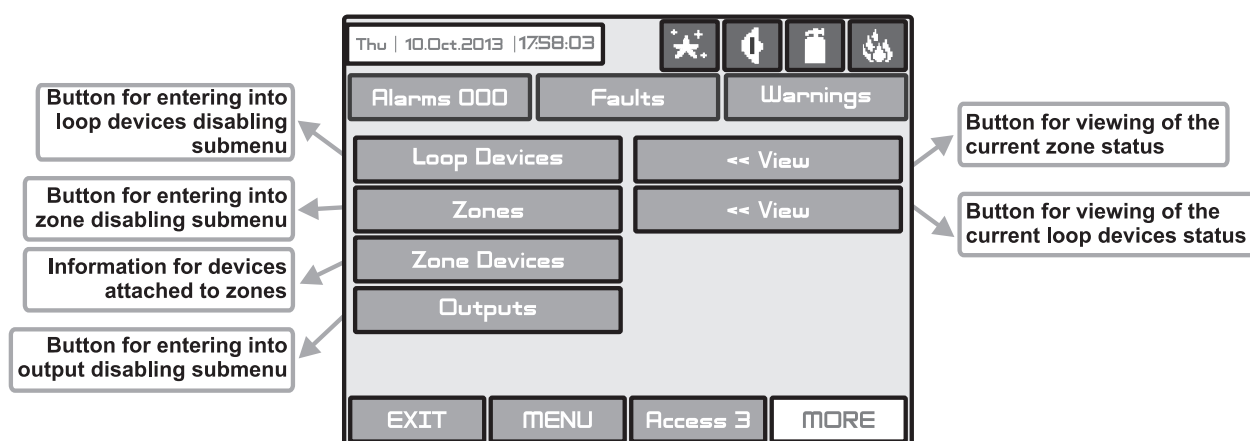
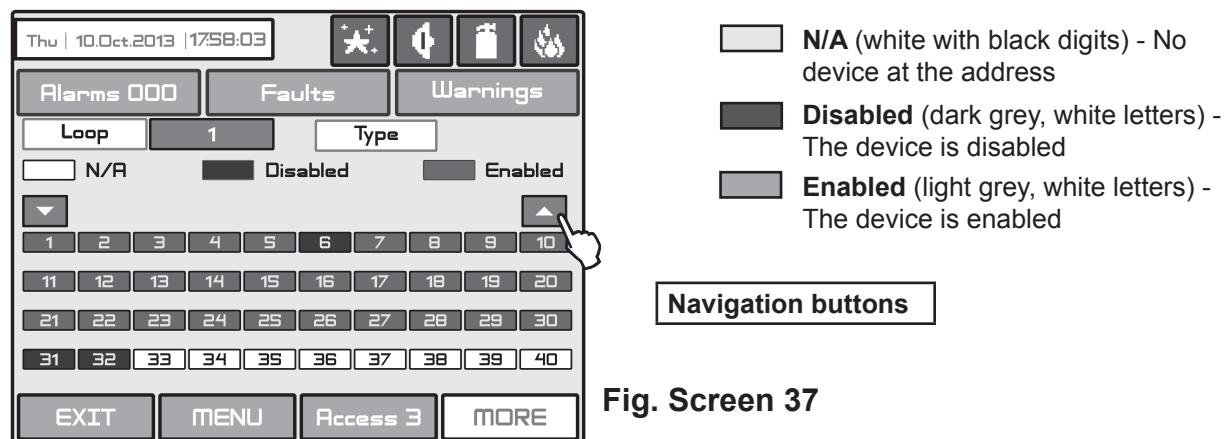
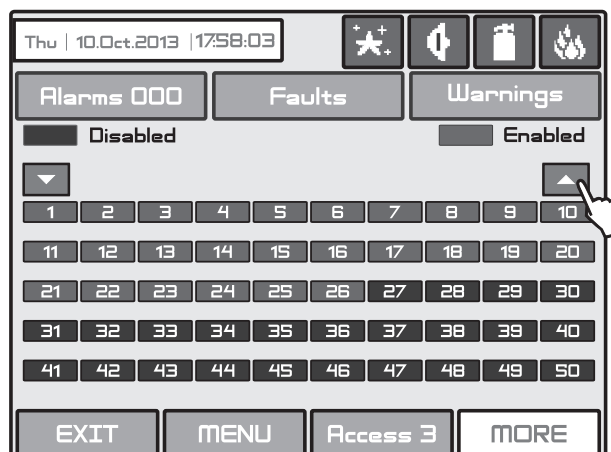
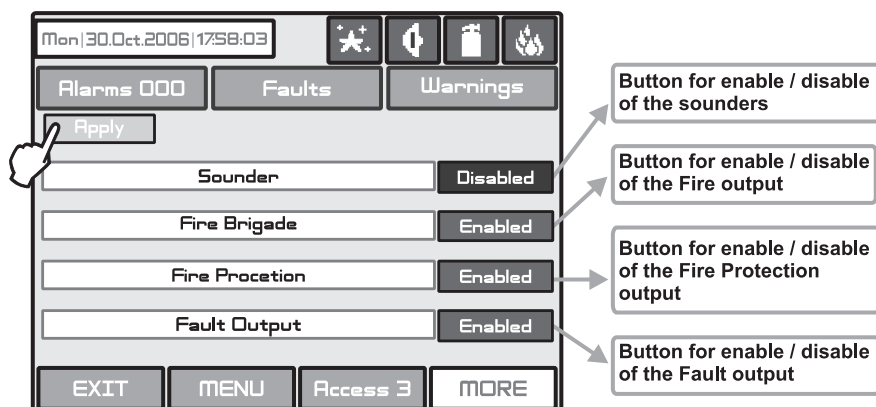

Fig. Screen 36
Fig. Screen 37
Fig. Screen 38
Fig. Screen 39
The user/installer can enable or disable the loop devices, zones and the outputs of the fire panel. To introduce enabling or disabling a function you can directly choose the respective button and make corrections, or first by pressing “View” button to look at the current status of the system and after that, if it is necessary, to enter new data – Fig. Screen 36.
The user/installer could first look at the current status of the loop devices by choosing “View” button situated next to the “Loop devices” button - see Fig. Screen 36. The current status of the loop devices programmed earlier in the system are displayed on the screen (see part Programming, item 3.3.2 Loop Devices) - Fig. Screen 37.
The user/installer could first look at the current status of the loop devices by choosing “**View**” button situated next to the “Zones” button - see Fig. Screen 36. The current status of the zones in the system are displayed on the screen (see part Programming, item 3.4 Zones) - Fig. Screen 38. In the case of a disabled zone, the panel generates a “**Zone Disabled**” message and the “**Disable**” LED on the control panel is activated.
From the menu for disabling introduction - Fig. Screen 36, the user/installer can also review the addresses and the number of all devices attached to a zone. Press the “Zone Devices” button. At the screen is presented information for loop and zone number with a list of available devices. The numbers of the devices attached to the selected zone are marked into grey. Use the buttons ▼ ▲ to review the rest of the devices for the zone. The type of the device can be reviewed after pressing the respective active number - see Fig. Screen 8, Part Programming.
From the menu for disabling introduction - Fig. Screen 36, the user/installer can disable or enable the monitored outputs of the IRIS fire panel - **Sounder**, **Fire Brigade**, **Fire Protection** and **Fault Output** - Fig. Screen 39. Use the **APPLY** button to confirm your choice.